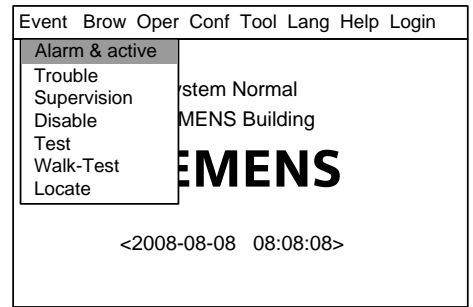

Fig.14-1
1. Press “Menu” to browse the main menu (Fig. 14-1).